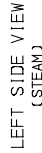
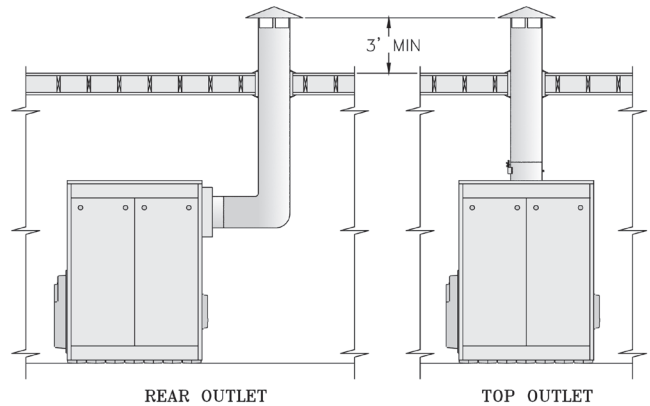
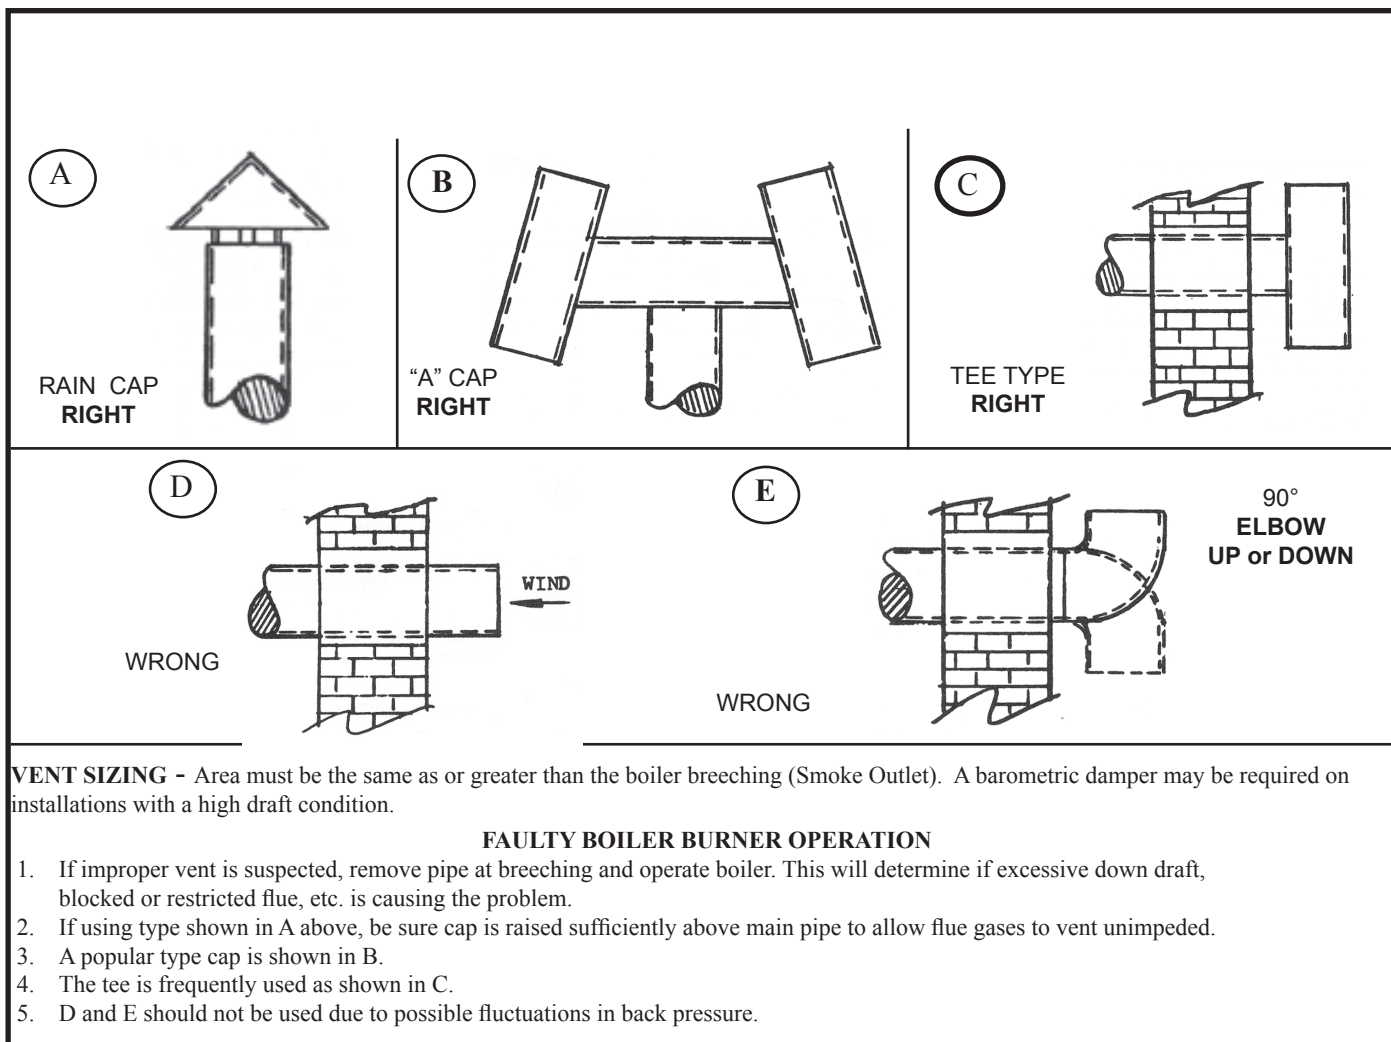

FIGURE 1: Dimensional Information
Figure 3a: Typical Arrangement for Stub Vent
Figure 3b: Vents — Faults & Suggestions
3. Firebox volume does not include added volume of 8" extended burner mounting plate (BMP). If 8" BMP is specified (refer to Figure 1), add 0.7 cu. ft. to volume listed above.
- Locate the unit in the boiler room so as to provide ease of venting and adequate clearance for maintenance, serviceability, and installation of piping. Refer to Figure 1 for boiler dimensional data.
This boiler is designed for forced draft firing and may be used with a conventional natural draft stack (15' minimum height) or a stub vent, sometimes called a diesel stack (see Figure 3a). See Table I for the proper vent outlet size. For low silhouette vent terminations, see Figure 3b. Draft controls are not normally required, although they may be used on installations where a natural draft stack is used or on multiple boiler installations with a common stack. The boiler is provided with a breeching damper, which should be adjusted to maintain a positive pressure of 0.1" W.C. in the vent connector box during burner high fire operation (see breeching pressure sensing port in Figure 1).
draft venting, the boiler, vent connector and stack will operate under positive pressure. Gas tight vent systems designed for pressure systems must be used to prevent flue by-product leakage. The vent height is usually limited to prevent negative draft, typically three (3) feet above the roof line (see Figure 3a). The damper shall be adjusted to maintain a positive pressure of 0.1" W.C. in the vent connector box during burner high fire operation (see breeching pressure sensing port in Figure 1).